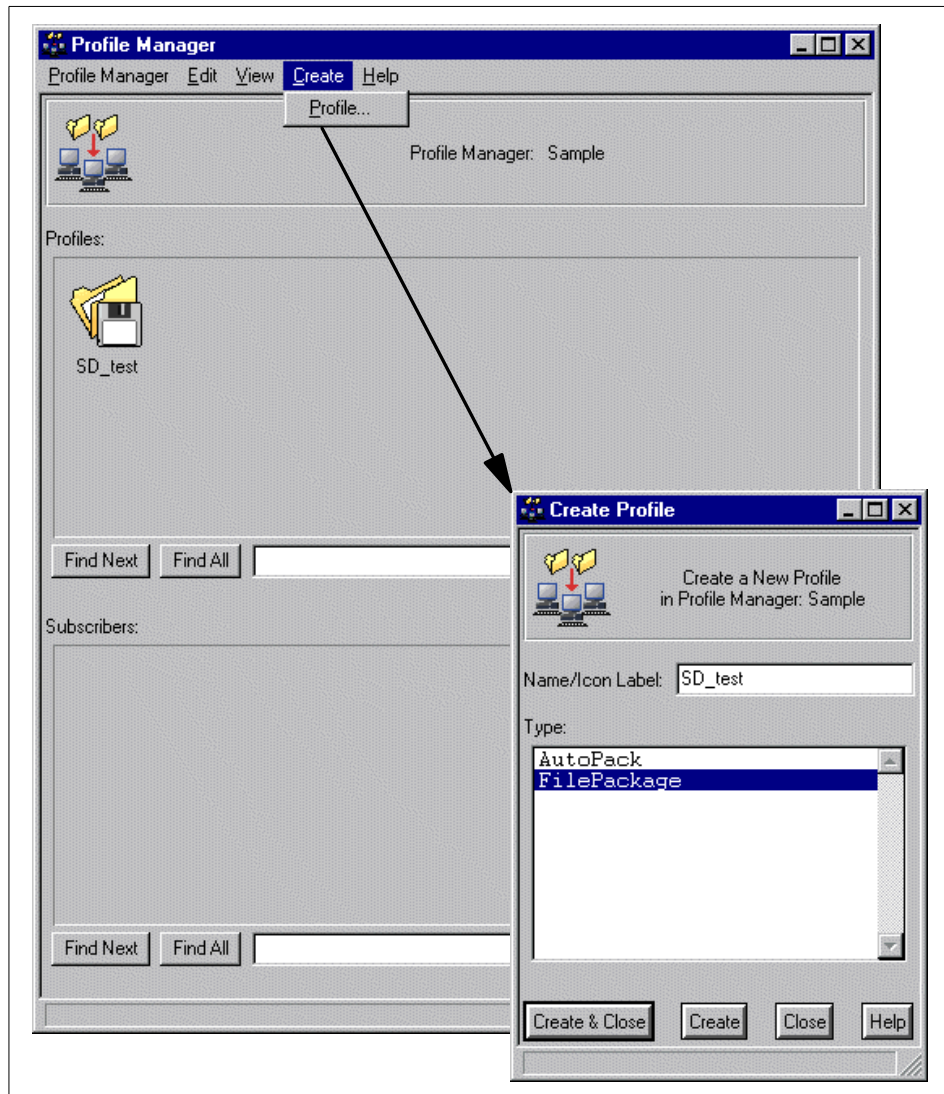

Figure 251. Creating a file package in database profile
3. Double click on the profile manager and create a new profile. Select **File Package** as the profile type, and put the name into the label field as shown in Figure 251 on page 409. As we described, the Autopack option is not supported by the AS/400 Endpoint.